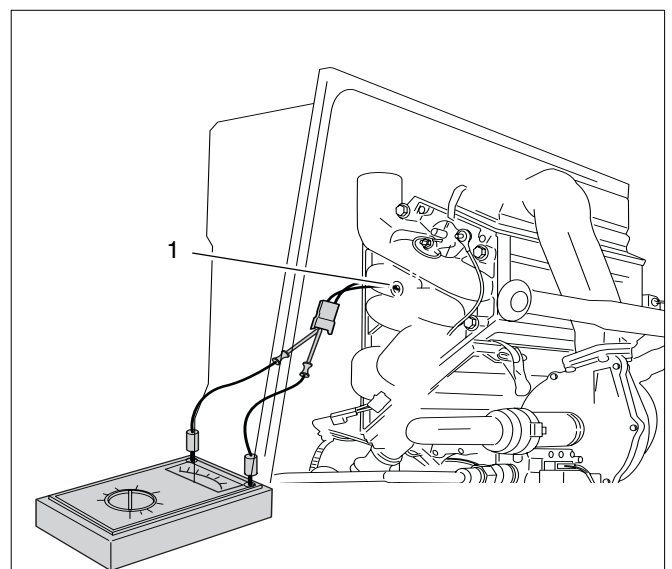

Fig. 54 Checking the safety sensor
Safety sensor see fig. 54, pos. 1.